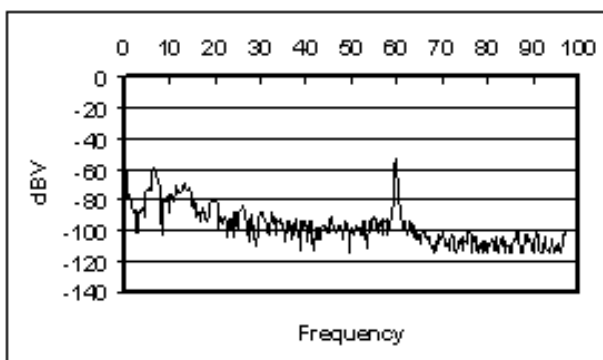

Figure 14: Shaking the Cable
4. Now shake the cable at a semi-constant frequency (*Note: you don't have to go crazy. You're not trying to kill snakes or anything. Just shake it gently*). **Comment on what happens on the FFT screen.** Using the *Interface* program, take a set of data while shaking the cable. Your data should look something like **Figure 14**.